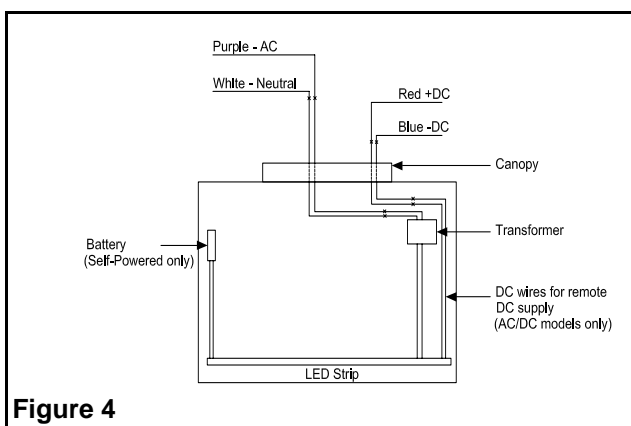

Figure 4
2. **Electrical connections:** Connect one end to the transformer leads, inside the enclosure, and the other end, to AC line voltage inside the junction box. Connect the white lead to neutral and the purple lead to AC line voltage (the input is universal 110 to 347 VAC). (See fig. 4). Connect the ground(green wire) to the junction box.
Optional: For AC models used with DC remote power. One end connects to the LED-STRIP leads, inside the enclosure, and the other end to DC input inside the junction box. Connect the red lead to positive, and the blue lead to the negative of the remote DC input (See fig. 4).